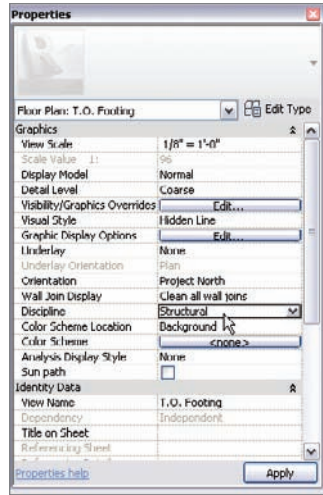

FIGURE 8.68 Changing Discipline to Structural
3. In the Discipline category of the Properties dialog, select Structural from the list, as shown in Figure 8.68.